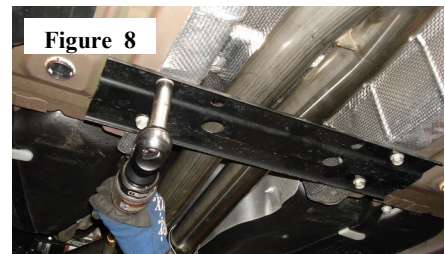

Figure 8
7. Install OE cross-brace support using original hardware. (See Fig. 8)